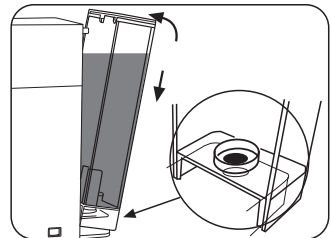

Fig.3
- Reinstall the tank by slightly tilting and resting it on the water valve (**Fig.3**)